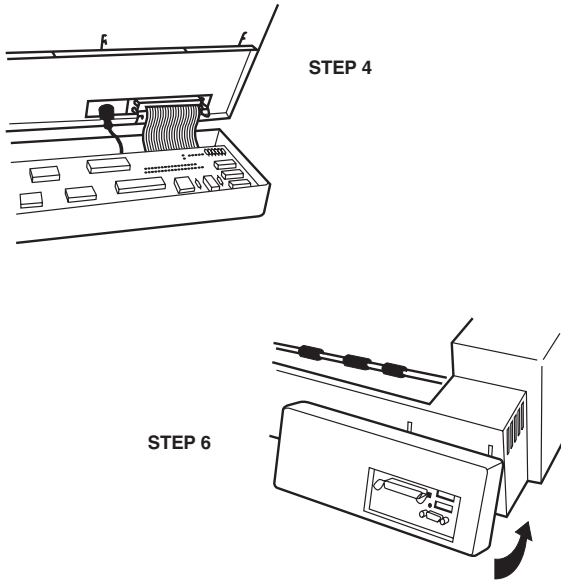

Figure 3-1. Installing the 2380/2390 Coax Emulation.
4. Align the catches on the 2380/2390 Coax Emulation back with the holes in the printer. Tilt the back up, insert the catches into the holes, then rotate the 2380/2390 Coax Emulation back onto the rear of the printer to engage the catches. See Figure 3-1.
6. Engage the pins at the top of the 2380/2390 Coax Emulation and rotate the 2380/2390 Coax Emulation so that all cables are inside it. Secure the unit with the two thumbscrews. See Figure 3-1.